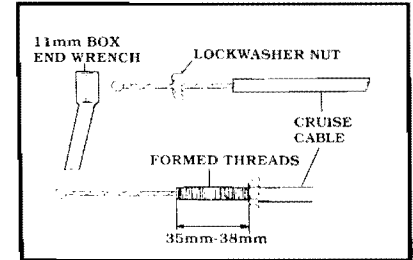

Figure 20
1. Before using the **FLAG NUT**, it will be necessary to form threads on the end of the **CRUISE CABLE**. This is easily accomplished by placing the **LOCKWASHER NUT** on the end of the **CRUISE CABLE** with your fingers. Then use an **11mm** box end wrench and turn clockwise until the desired amount of threads have been formed. **Figure 20, Page 15**
1. Before using the SNAP-IN ADAPTOR, remove the Adjustable Sleeve from the CRUISE CABLE. To use the SNAP-IN ADAPTOR, it will be necessary to form threads on the end of the CRUISE CABLE. This is easily accomplished by placing the LOCKWASHER NUT on the end of the CRUISE CABLE with your fingers. Then using an **11mm** box end wrench and turning clockwise until the desired amount of threads have been formed. **Figure 20**
3. Before using the LOCKWASHER NUT, remove the Adjustable sleeve from the CRUISE CABLE. Then use the LOCKWASHER NUT to form threads on the end of the CRUISE CABLE. This is easily accomplished by placing the LOCKWASHER NUT on the end of the CRUISE CABLE with your fingers. Then use an **11mm** box end wrench and turn clockwise until the desired amount of threads have been formed **Figure 20**.